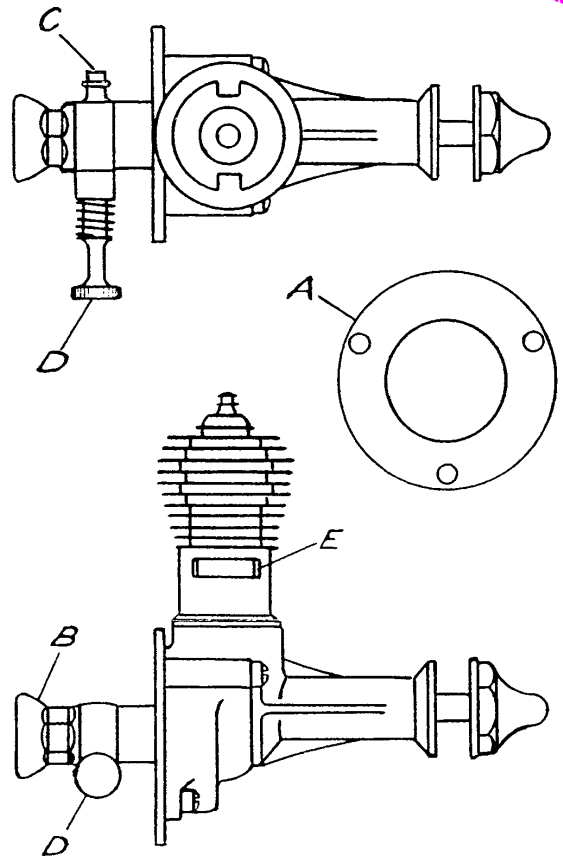

FIG. 1 FULL SIZE
2. Mount the engine in the plane or, if you want to give it some running first, mount it on a narrow board, , about 2" wide and fasten the other end of the board in a vise or nail it to something. **Do not hold the engine directly in a vise.** Use as a template, A-Fig. 1, to drill mounting holes and carburetor hole. **The screened nut, B-Fig. 1, in the rear is the air intake hole and must be left open.**
carburetor by slipping the fuel line over the fuel line fitting. C Fig. 1.
1. Close the carburetor needle valve, D-Fig. 1, by turning it clockwise till it stops. Do not force it.
5. Turn the propeller to the position so that the ex-haust ports E-Fig. 1 are wide open. Squirt 5 or 6 drops of fuel into the cylinder through one of the port openings. This is called priming.
3. If the engine fires with a burst of power then dies repeatedly after each time it is primed, and this is not cured by opening the needle valve more, the fuel jet is stopped up. If the engine has not been run for some time it is likely that it is only stopped up with castor oil. Choke the engine by holding a finger over the intake, B-Fig. 1, and